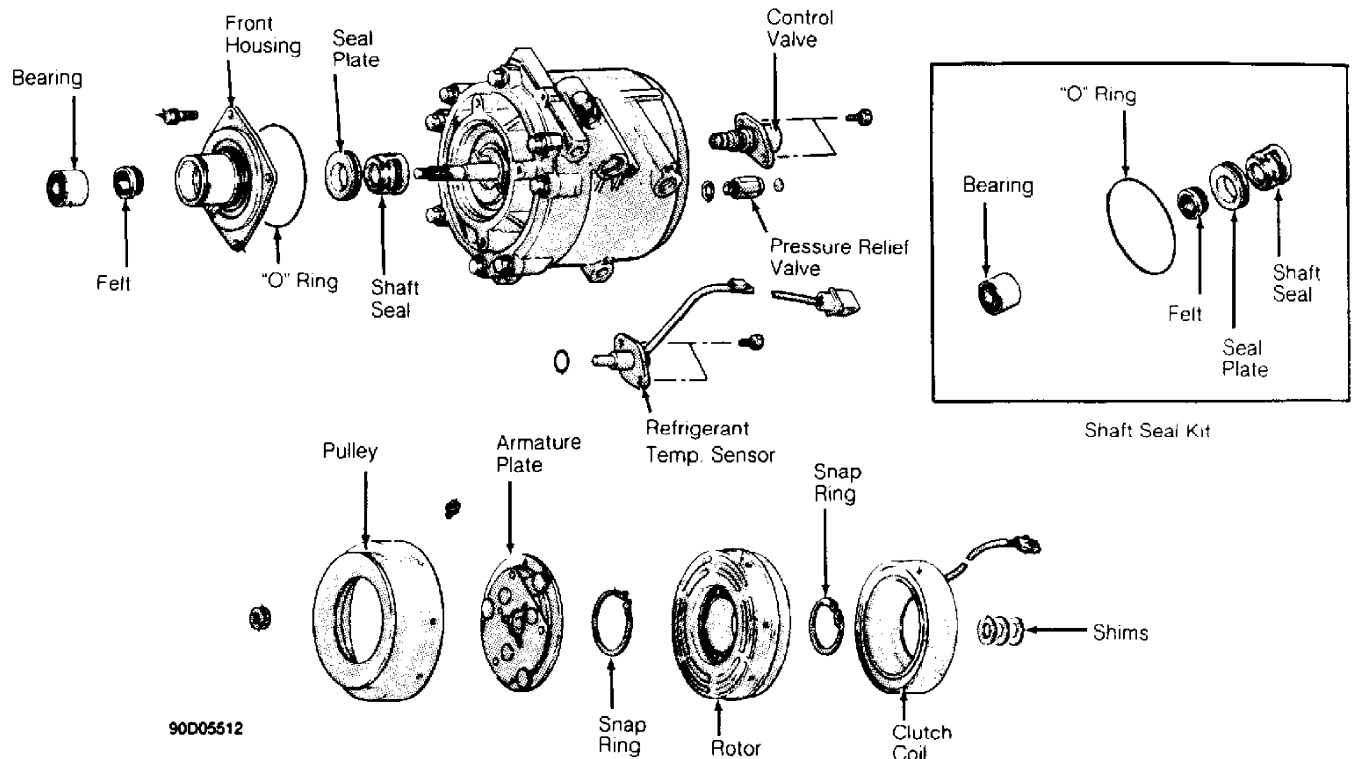

Fig. 5: Harrison R-4 Radial Compressor
2) Thread Clutch Plate and Hub Assembly Remover (J-33013-B) into hub. Hold body of remover with a wrench and turn center screw into remover body to remove clutch plate and hub assembly. Remove shaft key and retain for assembly. See Fig. 5.
2) Using Seal Installer (J-33011), install "O" ring and coat with refrigerant oil. Coat seal seat with refrigerant oil and install using seal seat remover/installer. Install snap ring. Install dust seal (if supplied in seal kit). See Fig. 5.